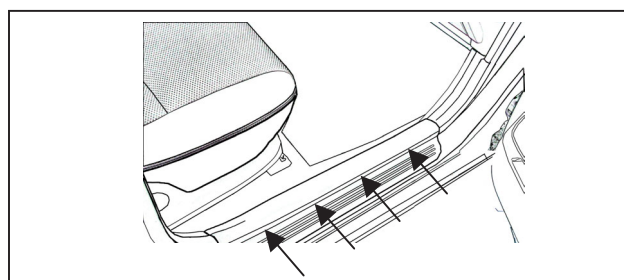

Figure B1
- 1. Remove scuff plate using nylon pry tool as indicated by arrows in Figure B1